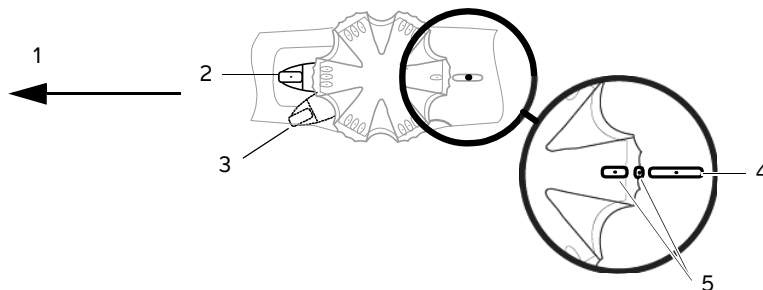

Figure 2-6 Tip deflection brake operation
The brake for the anterior/posterior deflection is a handle under the deflection wheel (see **Figure 2-6**). There is no brake for the right/left deflection.
- ▶ To prevent damage to the patient’s esophagus when inserting or withdrawing the transducer, the control wheel must be in the freely moving, neutral, and unlocked state. See **Figure 2-6**.